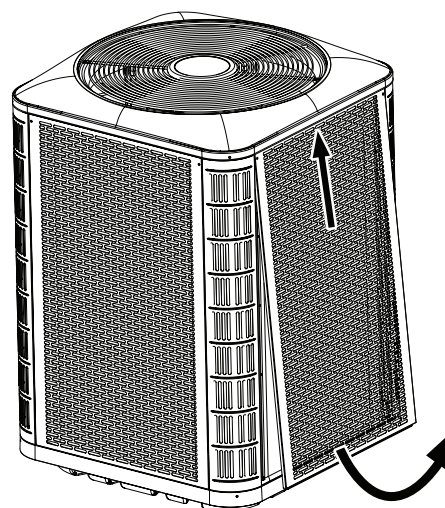
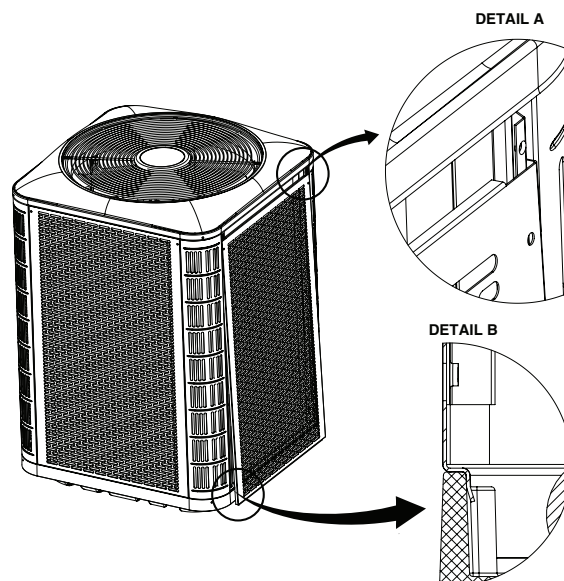

Figure 5. Panel Removal
Figure 6. Panel Installation
- To access the coil and the internal components of the unit, refer to Figure 5 for panel removal and Figure 6 for panel installation.
2. Slide the panel up towards the top pan in order to clear the bottom flange from the base pan. See Figure 5.
1. Insert the top corners of side panel flanges into the corner post channels as shown in Detail A in Figure 6.